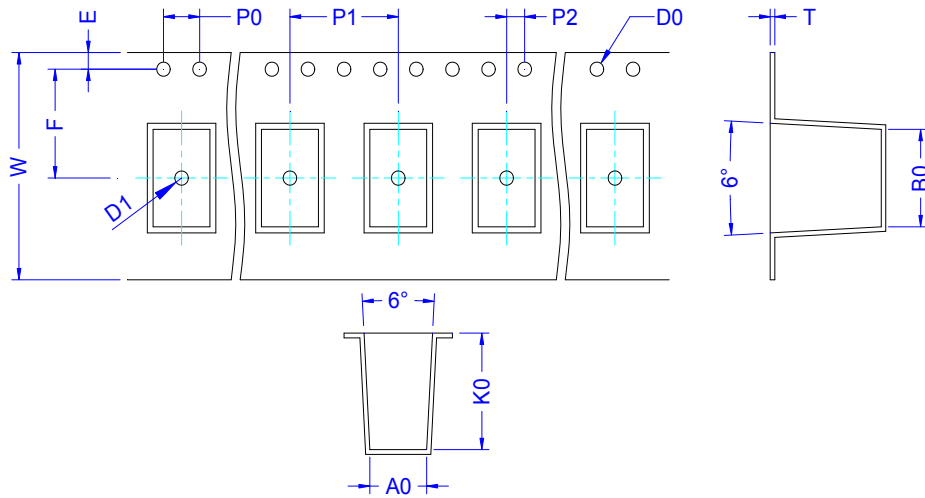

Fig. 9.1.1-1
1) arrier tape dimensions (Refer to Fig. 9.1.1-1and Table 9.1.1-1)